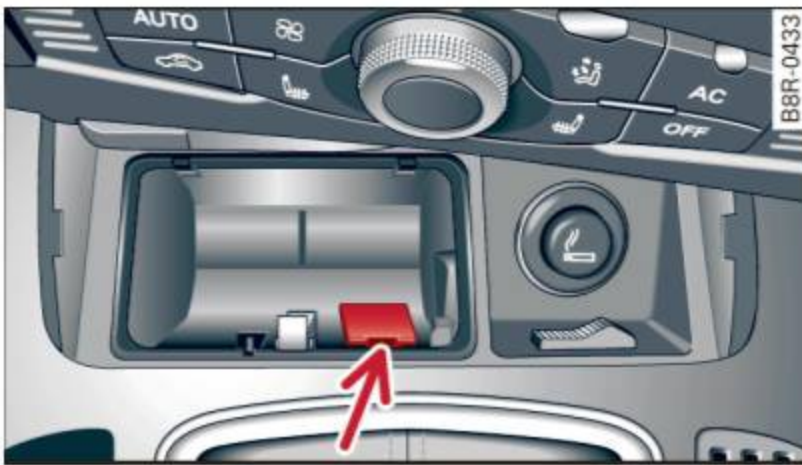

Fig. 89 Emergency release for selector lever
- ▶ You now have access to a bolt. Using a screwdriver or similar, press the bolt down and hold it down ⇒ *fig. 89*.